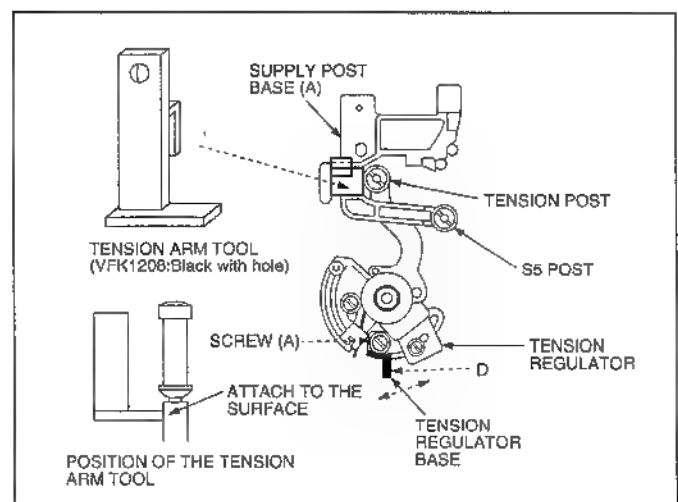

Fig. E-2
2. Set the VFK1208 to the Supply Post Base (A) as shown in Fig. E-2.